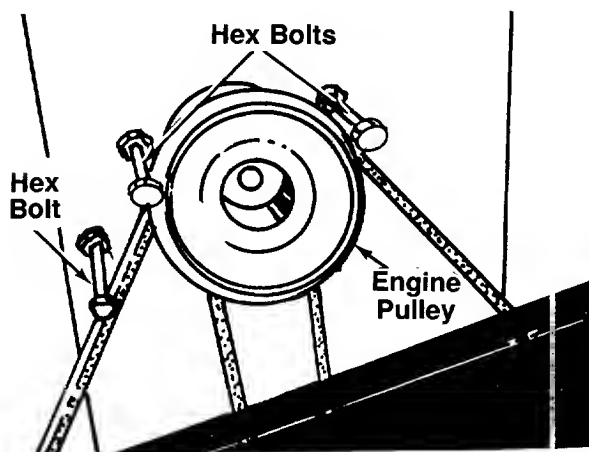

FIGURE 1.
2. Remove the three hex bolts (belt keepers) from the engine pulley belt guard. See figure 1.
When reassembling, make certain hex bolts are assembled as shown in figure 1.
Figure 1 is shown with the unit tipped up for clarity. It is not necessary to tip the unit to remove the belts.